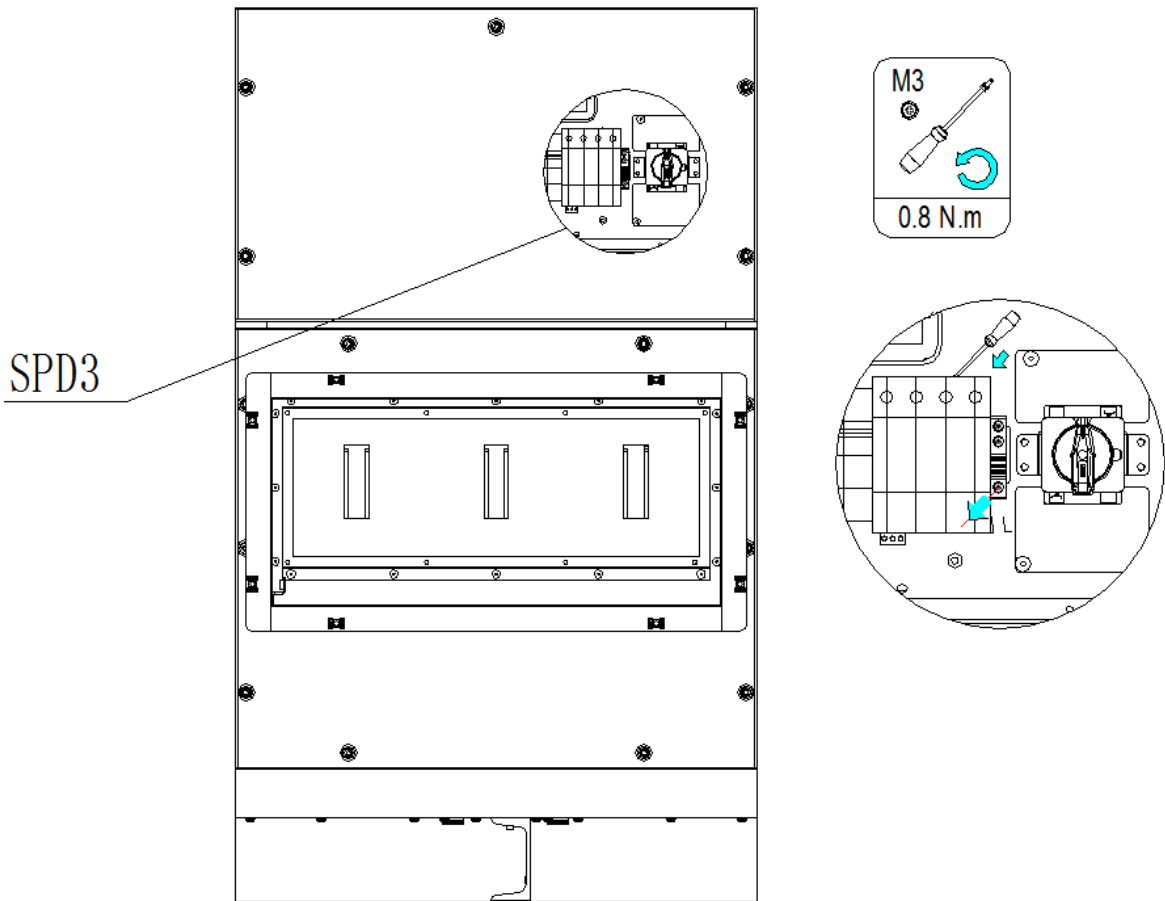

Figure 7-2 Position of the AC surge protector
The marking of the AC surge protector is SPD3. Figure 7-2 shows the position of the surge protector that you can see after the rear door plate is opened.
2. Open the cabinet door and confirm the SPD3 to be replaced. As shown in Figure 7-2, when replacing the surge protector, remove the cables connected to it, and then connect the cables back after the replacement.